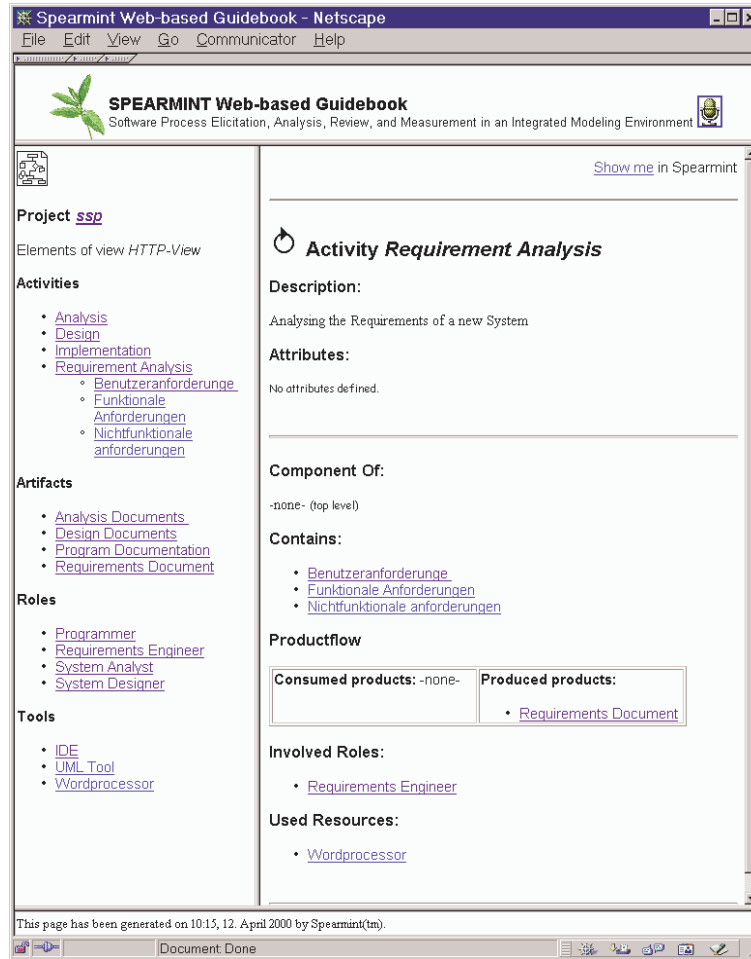

Fig 2.5
- Hypertext View for viewing the model in a browser by loading the URL in a web browser (see figure 2.5)